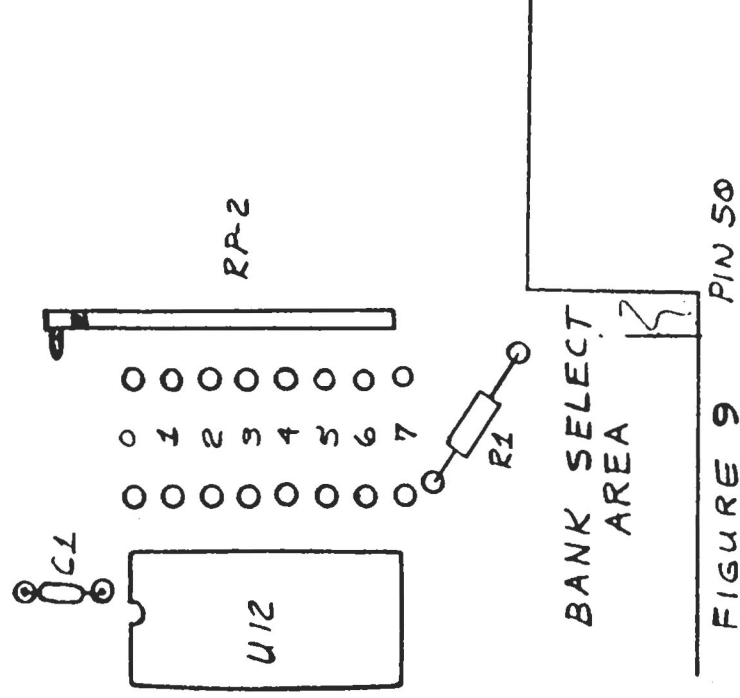

FIGURE 9
19. BANK SELECTION Refer to figs. 9 & 10. Any ARTEC ELECTRONICS 32K-100 memory card may be selected by software to disappear and reappear as memory available to the CPU. There are 8 possible banks of memory that the card may reside in. Any one card may appear in any or all of the 8 banks of memory.